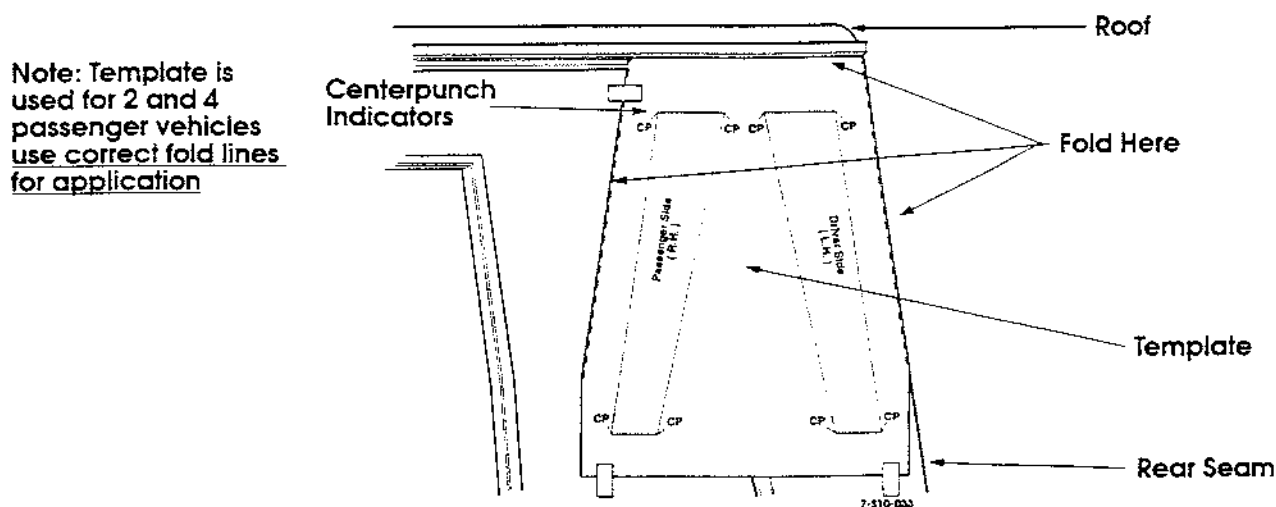

Figure 4 Template Usage (All but 84)
1. Obtain template (included with instructions) for left side exhaust vent (specific to model) (See Figure 4).
2. Fold template as indicated for specific model. Place against body using roof seam and rear body seam as reference points. Tape in place (See Figure 4).
3. Center punch body at (4) indicated points on the template (See Figure 4).